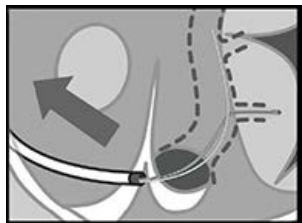

Figure 3
34. Before cracking his hub, the Right-sided CSG Worley is withdrawn over the removal guidewire and LV pacing lead. The stylet remains in place to the tip of the pacing lead. (see Figure 3)